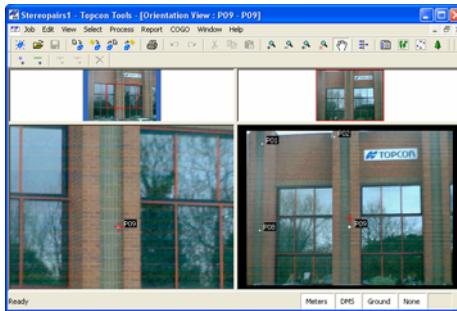

Figure 10-2. View Windows for the Selected Stereopair
- Open the window which will display the selected stereopair in its initial form (select “*Orientation View*”) Figure 10-2).